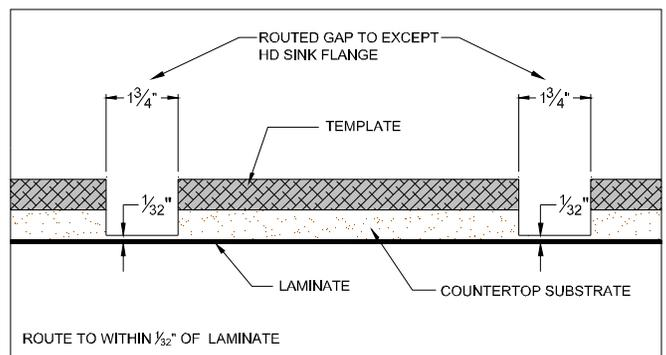

Figure 5C
- Index a 31/4 HP or 21/2 HP plunge router with a 11/8" x 1" top bearing flush trim router bit to remove the substrate. (FIG. 5C)
- Once this step is completed, there should be 1/32" of substrate remaining. (FIG. 5C)